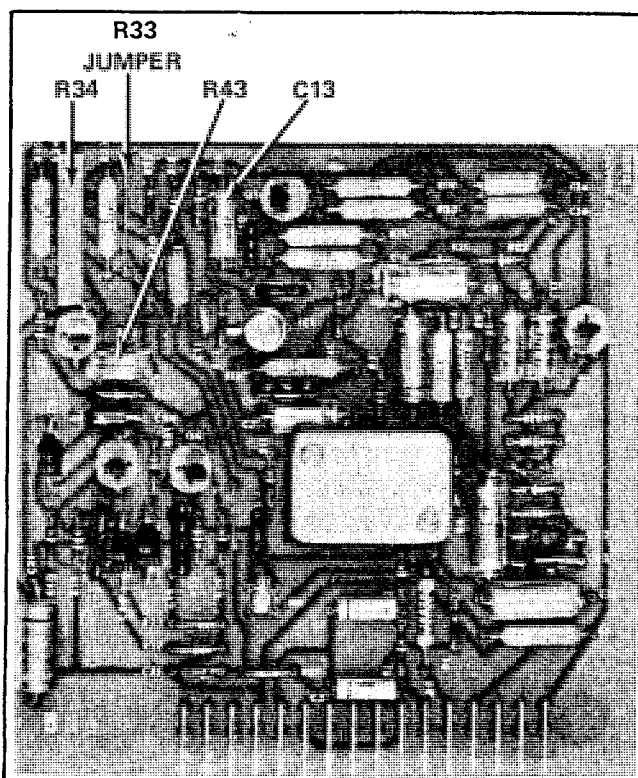
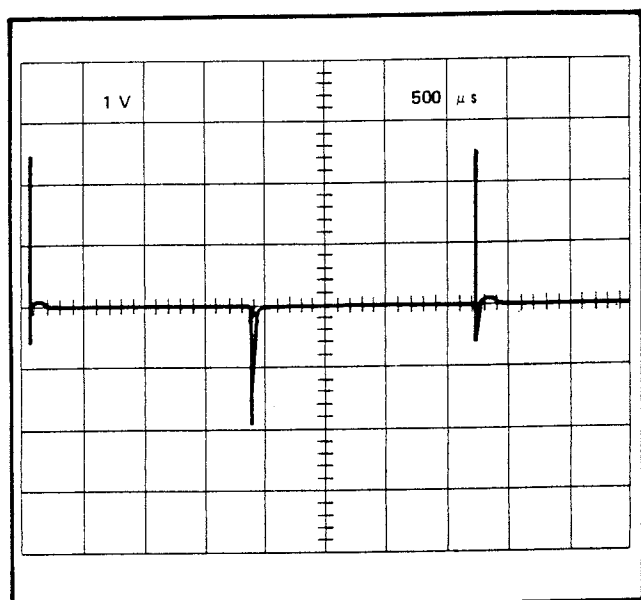

Figure 4-4. CHOPPER AMPLIFIER ADJUSTMENTS AND TEST POINTS
Figure 4-5. CHOPPER WAVEFORM – INITIAL ADJUSTMENT
- d. Refer to Figure 4-4 and connect a X1 scope probe to the negative side of C13 on the Chopper Amplifier PCB. Connect the probe's ground lead to the main chassis (not the guard chassis).
- g. Refer to Figure 4-4 and adjust R43 (chopper drive) to its maximum CW position.
- j. Adjust R34 so that the noisy segment is preceded by a positive-going spike similar to that shown in Figure 4-5. If the adjustment cannot be made, either install or remove the jumper across R33 (See Figure 4-4) and readjust R34 to obtain the specified display.